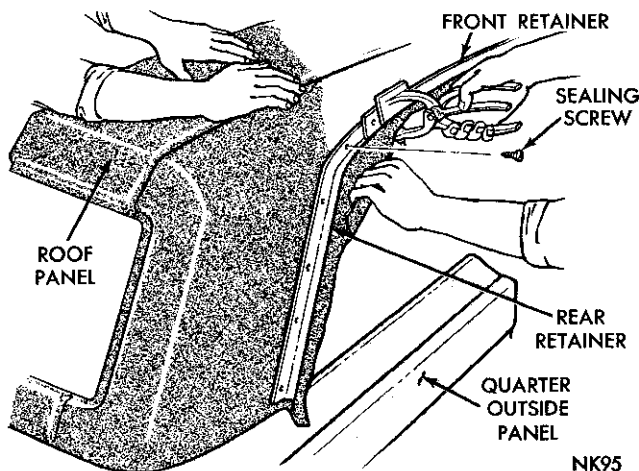

Fig. 175—Roof Side Cover Retainers (Imperial)
(15) Apply a $\frac{1}{4}$ inch head of sealer along the entire edge of the cover at the lower edge of the roof panel.
(16) Position the roof cover side retainers in the drain trough and after aligning the screw holes in the retainers with the screw holes in the body panel, secure in place using the body clamps (Fig. 175).